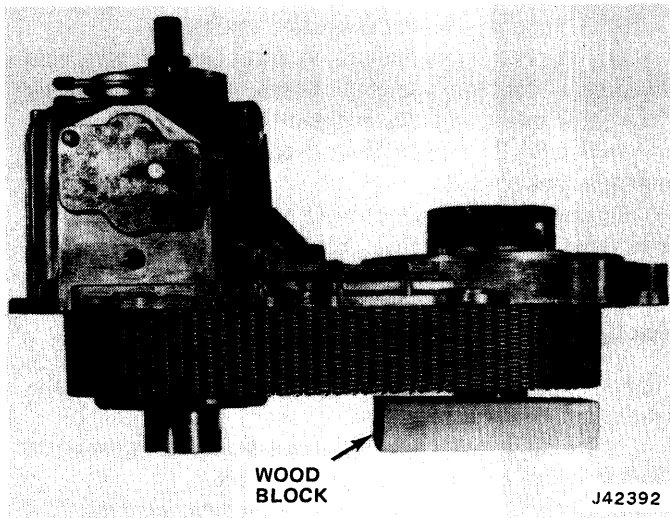

Fig. 8-41 Transfer Case Cover Positioned for Disassembly
(3) Using wooden block 2 by 4 by 6 inches long, position cover and drive sprocket on wooden block (fig. 8-41).
(4) If not equipped with reduction unit, remove drive hub and sleeve from drive sprocket rear splines by expanding internal snap ring. Snap ring expanding tabs are accessible through a slot in the outside edge of the drive sleeve.
(5) If equipped with reduction unit, remove pinion cage snap ring and carrier.
(6) Remove case cover from drive sprocket and differential. Cover, rear output shaft, bearings, and seal, drive sprocket rear needle bearing, and lockup hub may be serviced without disassembling other units.
(7) Slide drive sprocket toward differential unit and remove chain.
(5) Position cover and drive sprocket on wooden block 2 by 4 by 6 inches long (fig. 8-41).
(6) If not equipped with reduction unit, remove drive hub and sleeve from drive sprocket rear splines by expanding internal snap ring.